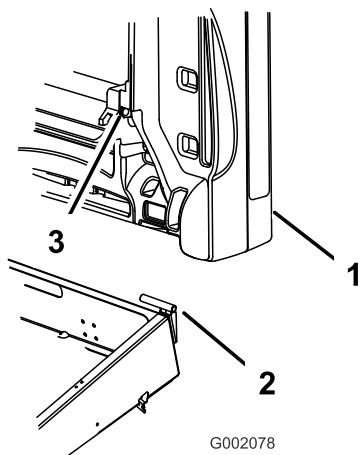

Figure 12
3. Slide the cargo box mounting hole onto the pivot bracket (Figure 12).